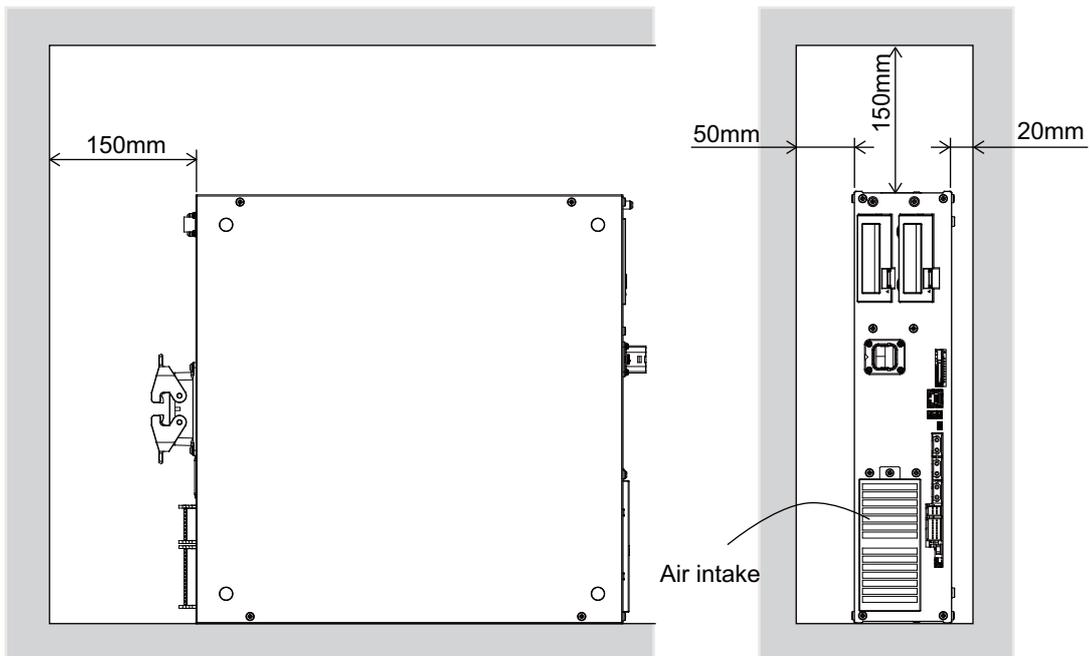

Fig.3-3: Installation dimensions
**CAUTION** When installing the controller vertically, ensure that the air intake is at the bottom as illustrated in Fig. 3-3.